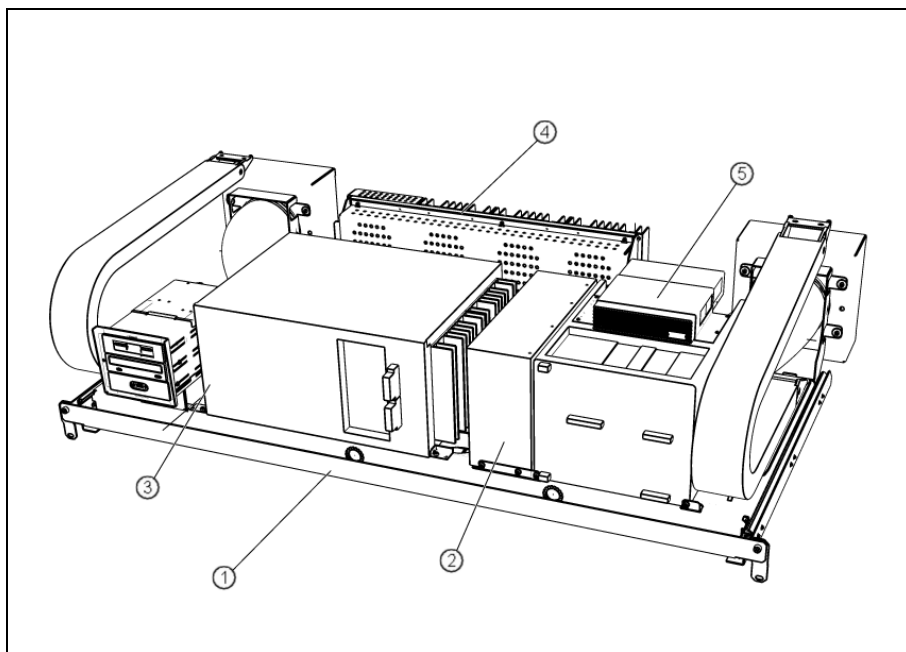

Figure 11-1. Power Supply System.
The following units are included in the power supply system. All the units are located on the electric shelf ('1' in Figure 11-1):
- *PS4* ('2' in Figure 11-1) on page 11-3.